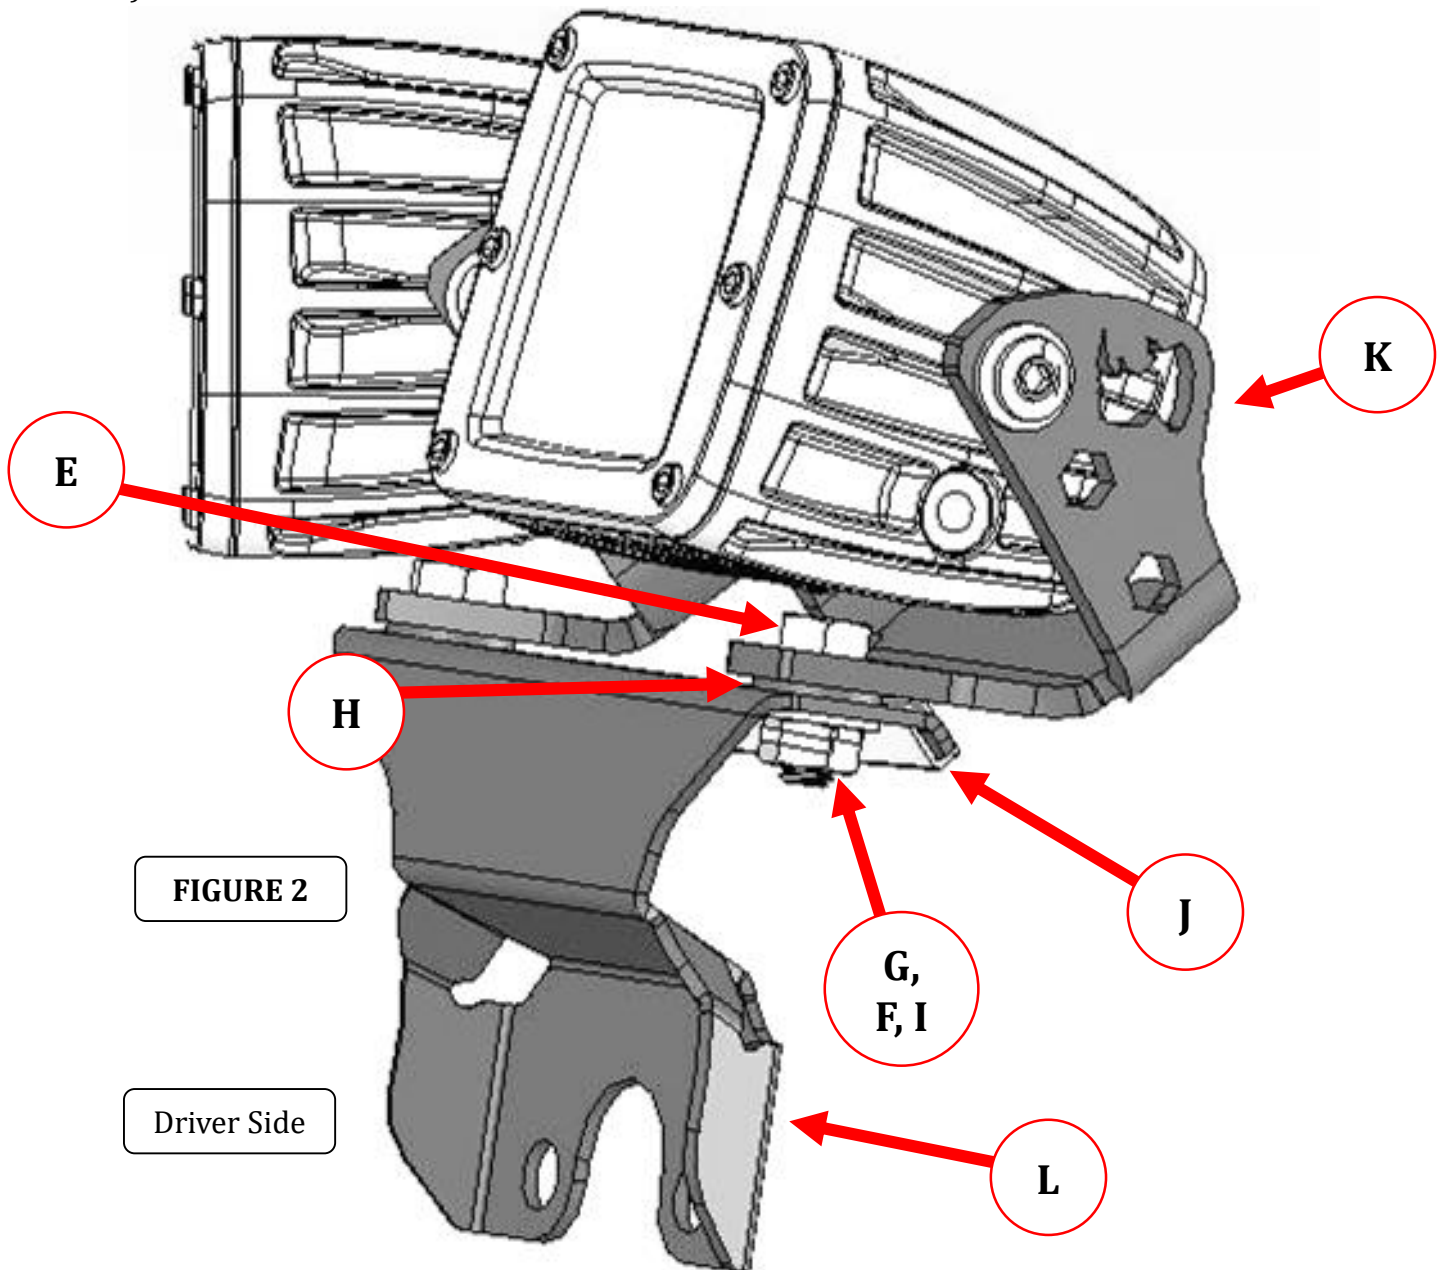

FIGURE 2
**Step-3** Place a 5/16" plastic flat washer over one of the light bracket attachment holes in the driver side hard top light mount bracket. Position the base of the light bracket on top of the plastic flat washer, align the holes and secure the light bracket to the hard top light mount bracket using (1) 5/16" X 3/4" hex bolt, (1) 5/16" lock washer, (1) 5/16" flat washer and (1) 5/16" hex nut, (FIGURE 2). Snug but do not tighten the nut and bolt. Repeat to install the additional LED light and light bracket assembly to the driver side hard top light mount bracket.
**Step-4** Install the supplied rubber channel to the edge of the driver side hard top light mount bracket, (FIGURE 2).